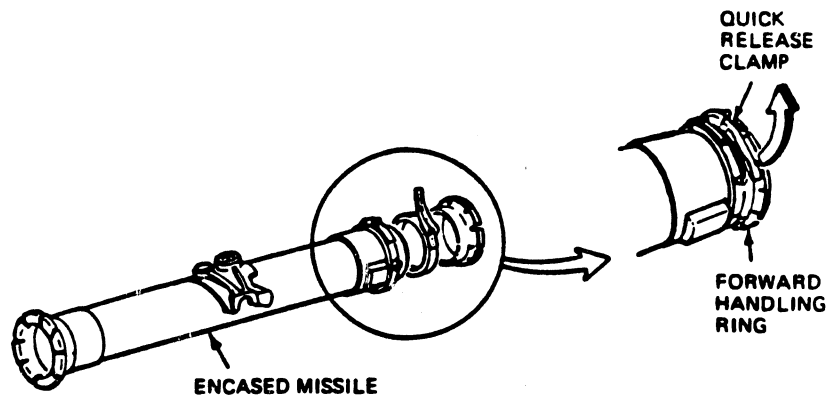

Fig 4-6. Quick release clamp and forward handling ring (encased missile).
Step 5. Pull up on the quick release clamp at the forward handling ring and remove both from the encased missile (fig 4-6).